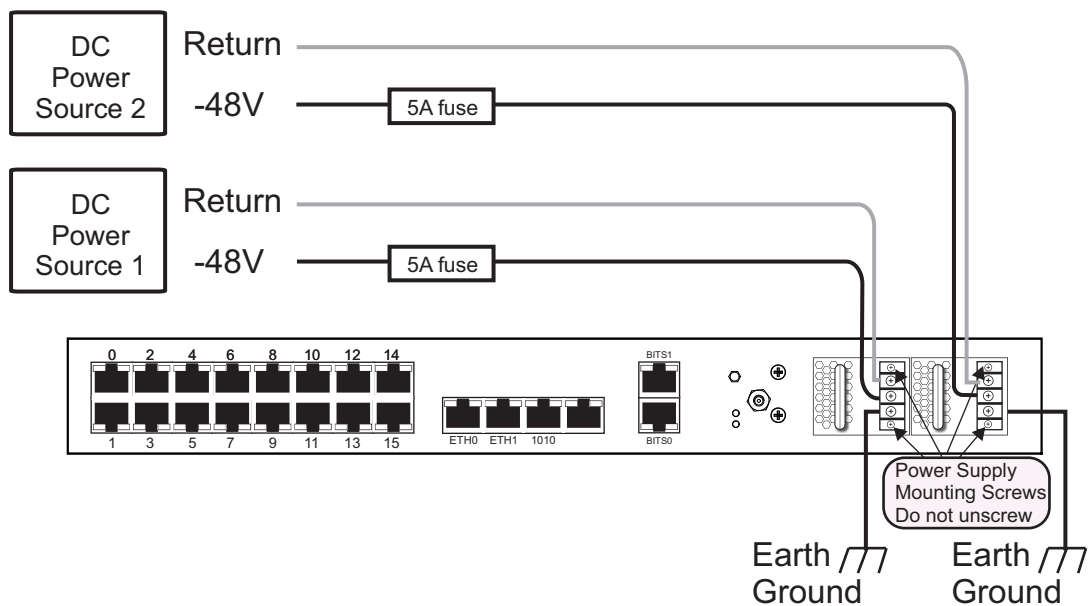

Figure 5.4 7800-TMS DC wiring diagram
1. Connect one wire from the positive terminal of the 7800-TMS to the return side of DC power source one, as shown in figure 5.4 on page 46.